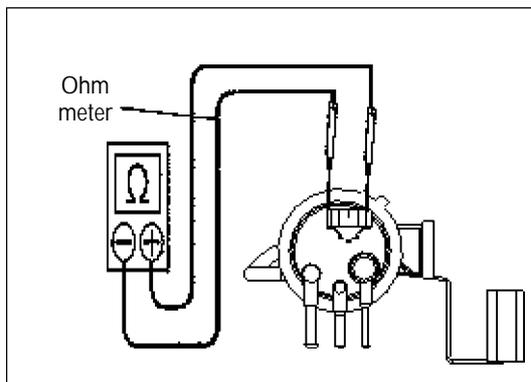

Figure 3-4
(1) Check whether the resistance of the fuel pump is 0.2~3.0 ohm, at 20° C. If not, replace the fuel pump (see Figure 3-4).
(2) Fuel oil pump running: